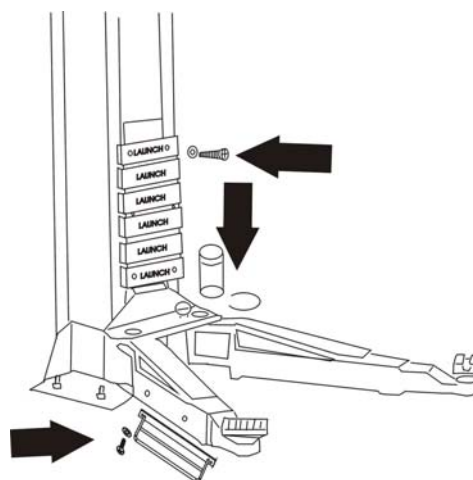

Fig. 17
- Install the swing arm as Fig.17